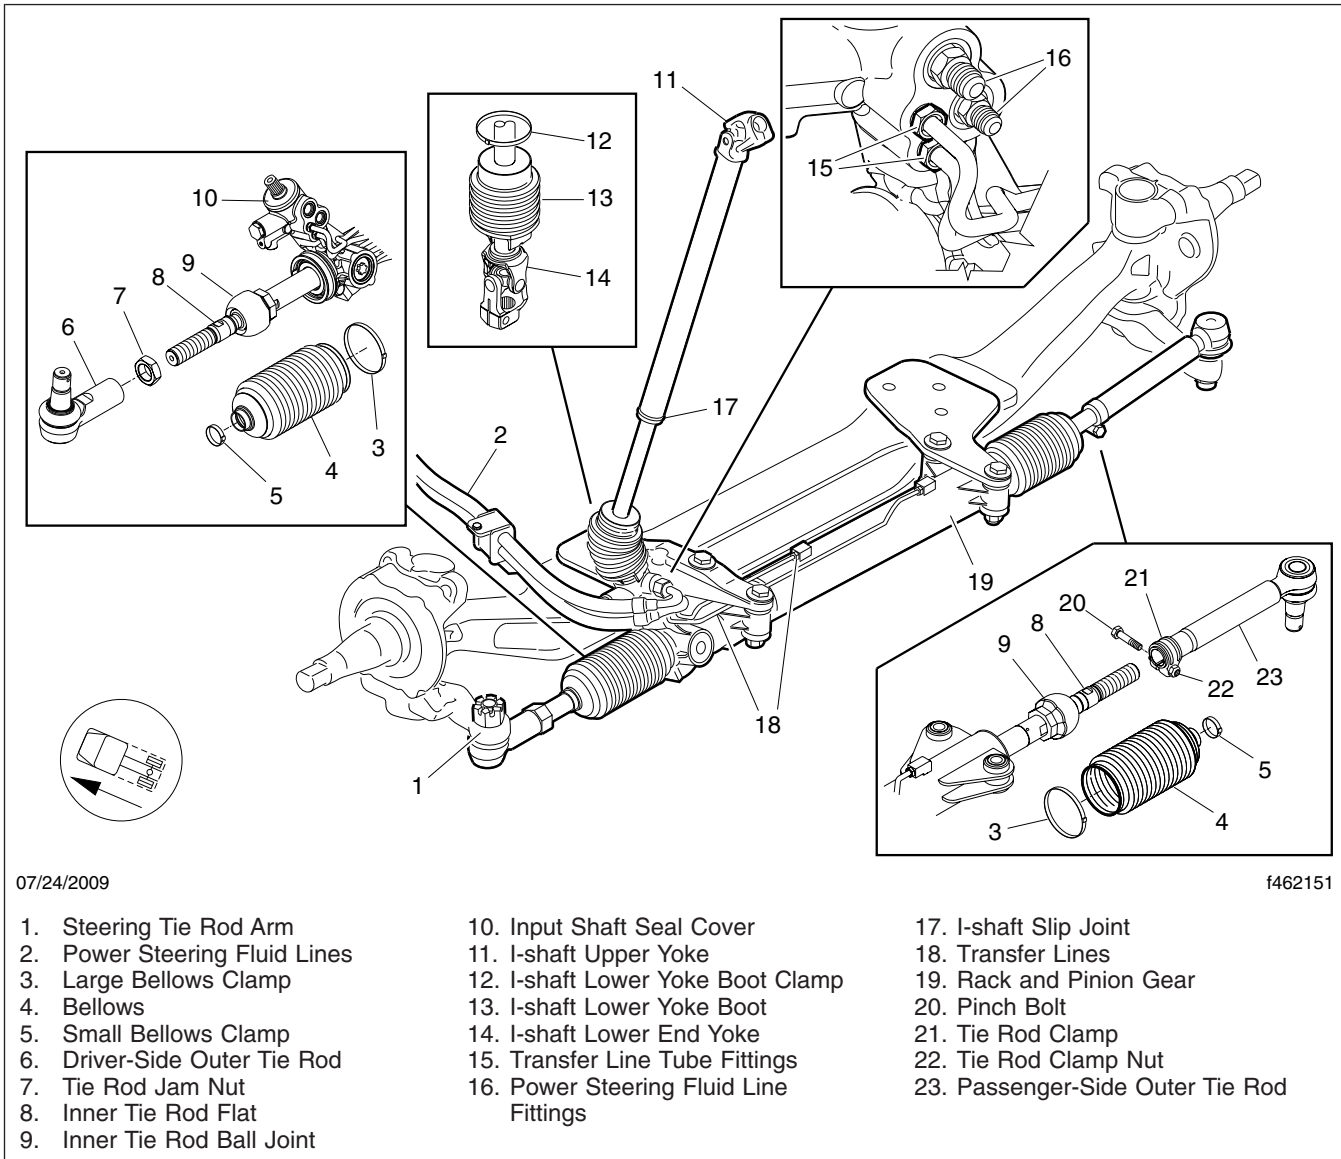

Fig. 4, Rack and Pinion Steering System
Inspect the rack and pinion steering system as described below, and repair or replace any components that are worn or damaged. **Figure 4** shows the components of the rack and pinion steering system.
10. Check the tube fittings on the hard transfer lines of the gear, see Fig. 4, Item 15. If there is leakage from either of the fittings, replace the steering gear.
- 4.2 On the driver's side, loosen the jam nut. See Fig. 4. Note the number of exposed threads and the position of the outer tie rod to ease installation.
7. Disconnect the outer tie rods from the inner tie rods. If necessary, use a backup wrench on the inner tie rod flat to turn the inner tie rod. See Fig. 4.